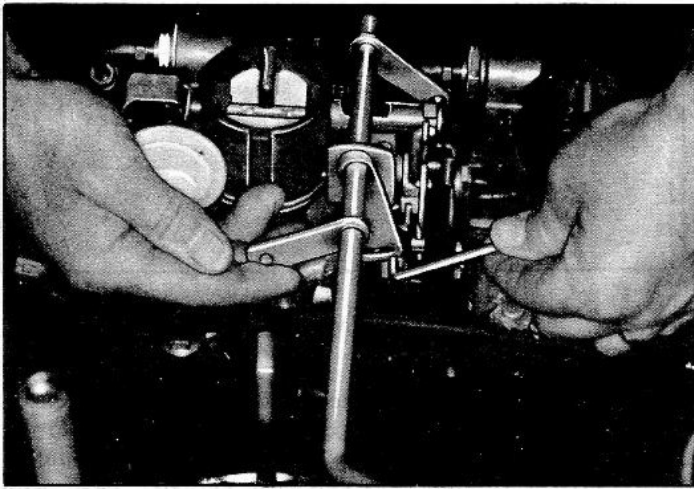
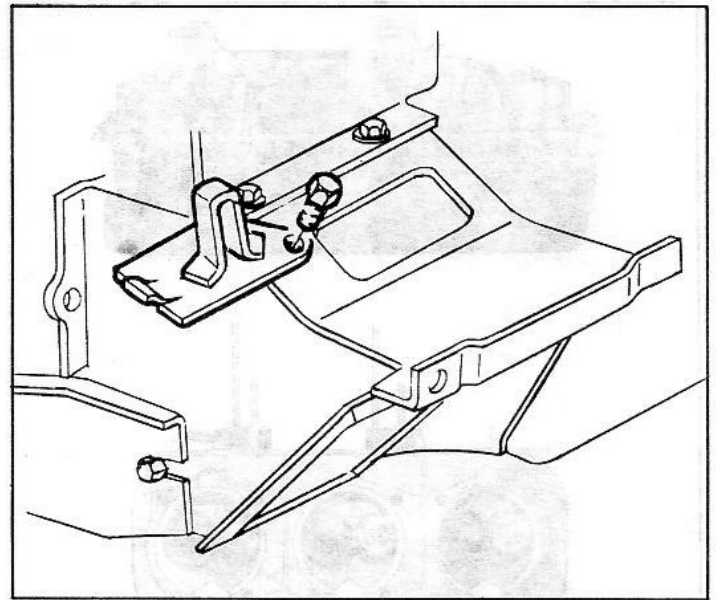

Fig. 130—Synchronization of Secondary Carburetor
Fig. 131—Air Circulating Plate
4. While holding primary carburetors at full throttle position, position left secondary carburetor at full throttle position, then adjust actuating rod by turning rod in swivel until rod will just enter front of slot in cross-shaft lever. (fig. 130).
Air circulating plate (left side only); removed in winter - installed in summer (fig. 131).
1. With engine primary carburetor at full throttle position, position left secondary carburetor at full throttle position, then adjust secondary jet by turning float valve until fuel level just above float bowl in right carburetor (Fig. 130).
Air circulating plate (Fig. 131) is used to remove water from the engine oil.
1. Remove secondary carburetor for the 1960 series Corvair engine (Fig. 130) and install the same as shown in Fig. 131. The 1960 series Corvair engine has the mechanical carburetor system.
1. Synchronize the primary carburetor as outlined under Carburetor Synchronization, Mechanical Adjustment to Figure 130 for the 1960 and 1969 series Corvair.